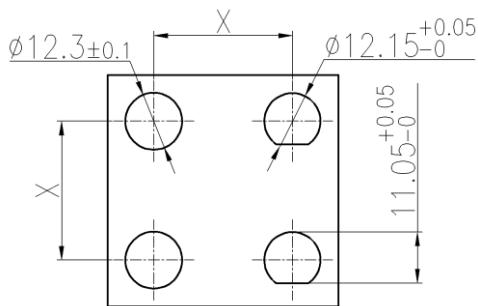

Figure 15
- ✧ 面板钻孔。钻孔的建议尺寸（如图 15），所有钻孔边缘的毛刺需要清除。我们建议，无论水平或垂直结构，间距值（X）至少要有 25mm（如图 15）。
Drill the panel wall. Recommended bore dimension see Fig.15, all burrs must be removed from the edges of all bores. For both horizontal and vertical mounting a spacing (X) of at least 25mm is recommended (Fig.15).